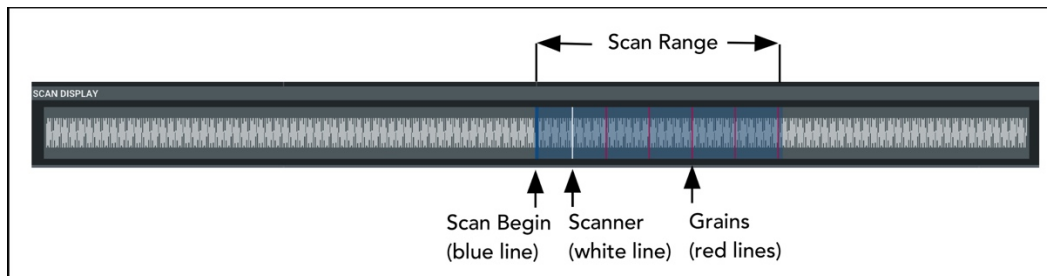

Figure 3. The Scan Display indicates:
9. Scan Begin [0,1] - Controls the starting point in the sound buffer to start granulating (figure 3). This is a relative value, where 0 indicates the beginning of the sound file, 0.5 indicates the halfway point, and 1.0 indicates the end, regardless of the length of the currently selected sound file.
10. Scan Range [-1,1] - How much of the file to scan. Shown in the Scan Display (figure 3). A value of 1 means scan the entire file. A value of 0 holds the scanner in place at the Scan Begin position. One can also set negative values to extend the range to the left of the Scan Begin position. The scan region loops around to the beginning when extended.
Scan Begin (9) and Scan Range (10) together determine the region of the sound file through which the scanner moves. For example, if Scan Begin is at 0.50 and Scan Range is set to 0.25, then the scan area will extend from halfway through the sound file to 3/4 of the way through the sound file (see figure 3). Scan Speed controls how quickly the scanner moves through the scan region. When the scanner reaches the end of the scan region, it loops back around to the beginning of the scan region. Note that while the scanner always remains in the scan region, a grain may exceed the boundaries of the scan region if it begins near the edge of the scan region and Grain Duration is long enough. This is because EC2 always prioritizes Grain Integrity.